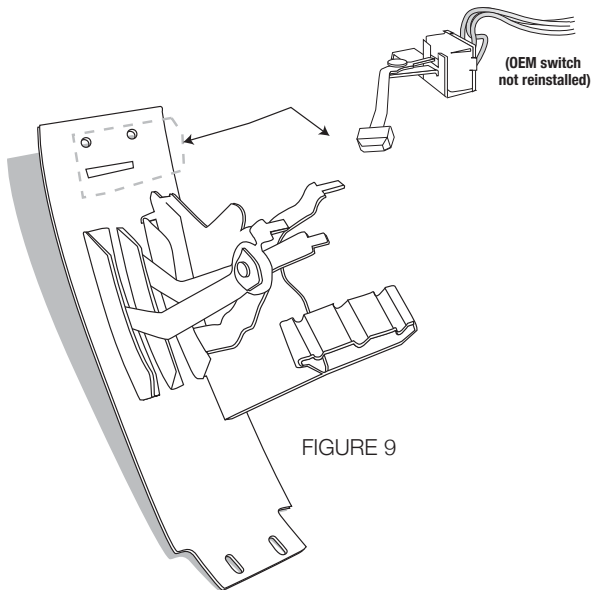

FIGURE 9
- 2) Remove the OEM blower switch knob. Retain the screw, you will use it again shortly. Remove the control cables and the original blower switch and set aside (these will not be reused, see figure 9).